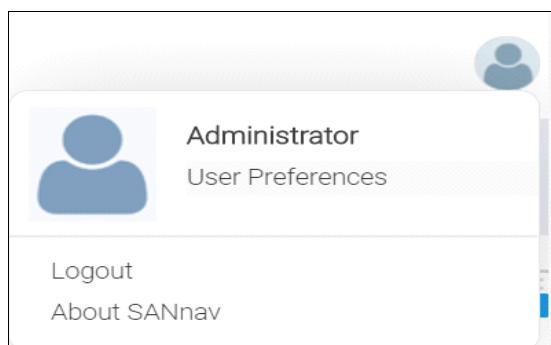

Figure 6-8 Configuring user preferences
1. In the upper right, click the person icon. In the drop-down menu, select **User Preferences**, as shown in Figure 6-8.